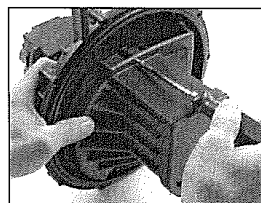

Fig. 2
2. Remove diffuser (Ref. 8) by removing the three screws (Ref. Nos. 6, 7) with a Phillips screwdriver. Inspect parts for wear. (See Fig. 2.)
6. Install diffuser onto the casing cover with three Phillips-head screws. (See Fig. 2.)